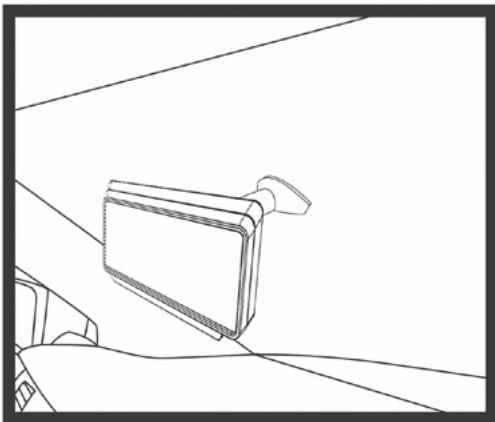

Figure 1.1
2. Replace existing mirror, and adjust mounting angle to allow optimum driver viewing comfort. (see figure 1.1 and 1.2 below).